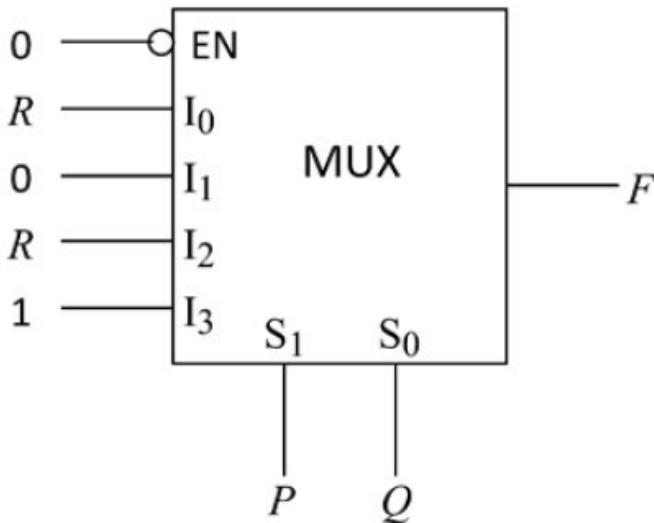

Fig. 4.9
14. Fig. 4.9 below shows a multiplexer where S_0 and S_1 are the select lines, I_0 to I_3 are the input lines, EN is the enable line and $F(P, Q, R)$ is the output. Find the boolean expression for output F as function of inputs P, Q, R using K-map. (GATE EC 2020)